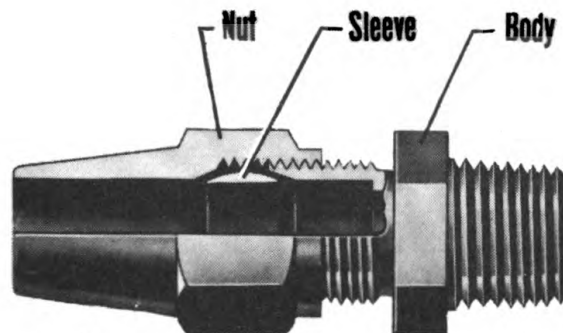

Figure 39—Cross Section of Typical Tubing Connector.
(5) To install a new gasket, partially collapse it with the fingers and enter one side of the gasket flange in the groove in the coupling. Then use a blunt nose screwdriver or some similar instrument to push the gasket into place. When properly installed, the exposed face of the gasket is flat and not twisted or bulged at any point.
11. Tubing and Tubing Fittings. (See figures 39 and 40.)